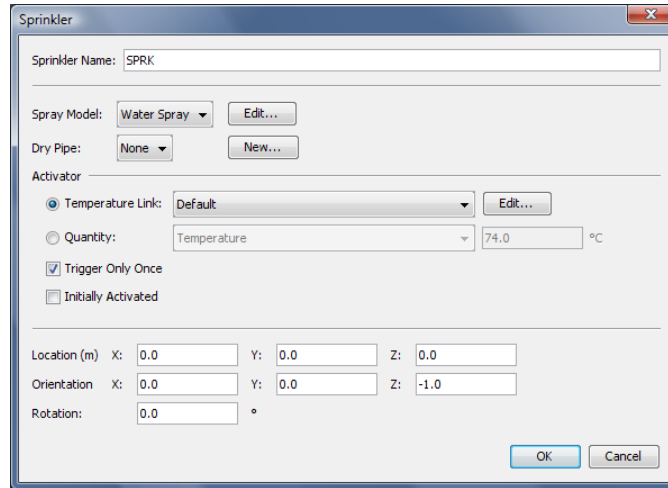

Figure 13.2. Creating a new sprinkler
1. On the **Devices** menu, click **New Sprinkler...** . This will display the **Sprinkler** dialog, Figure 13.2.